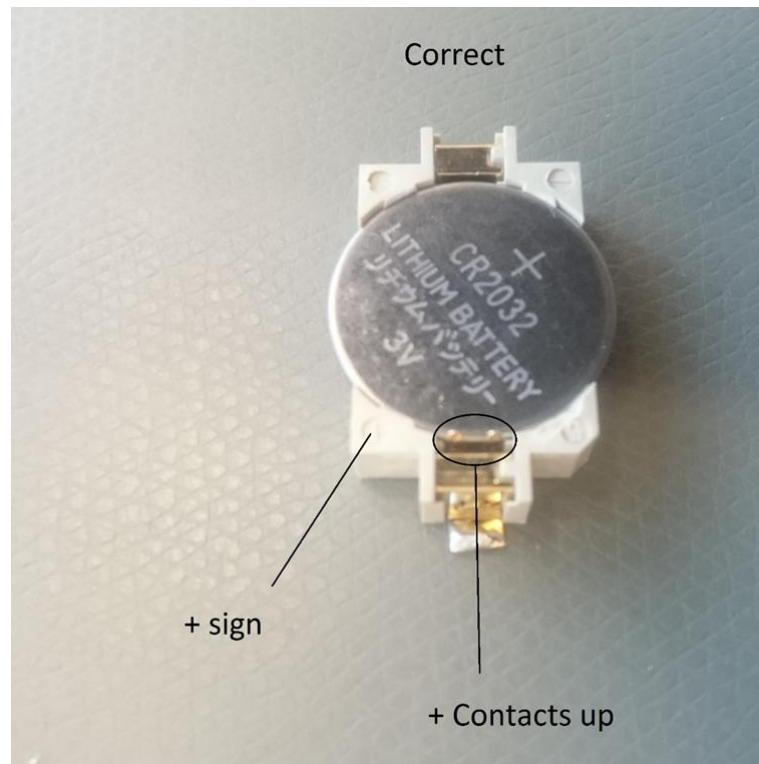

Figure 38. Correctly installed backup battery.
- a. Correctly installed battery looks like in Figure 38